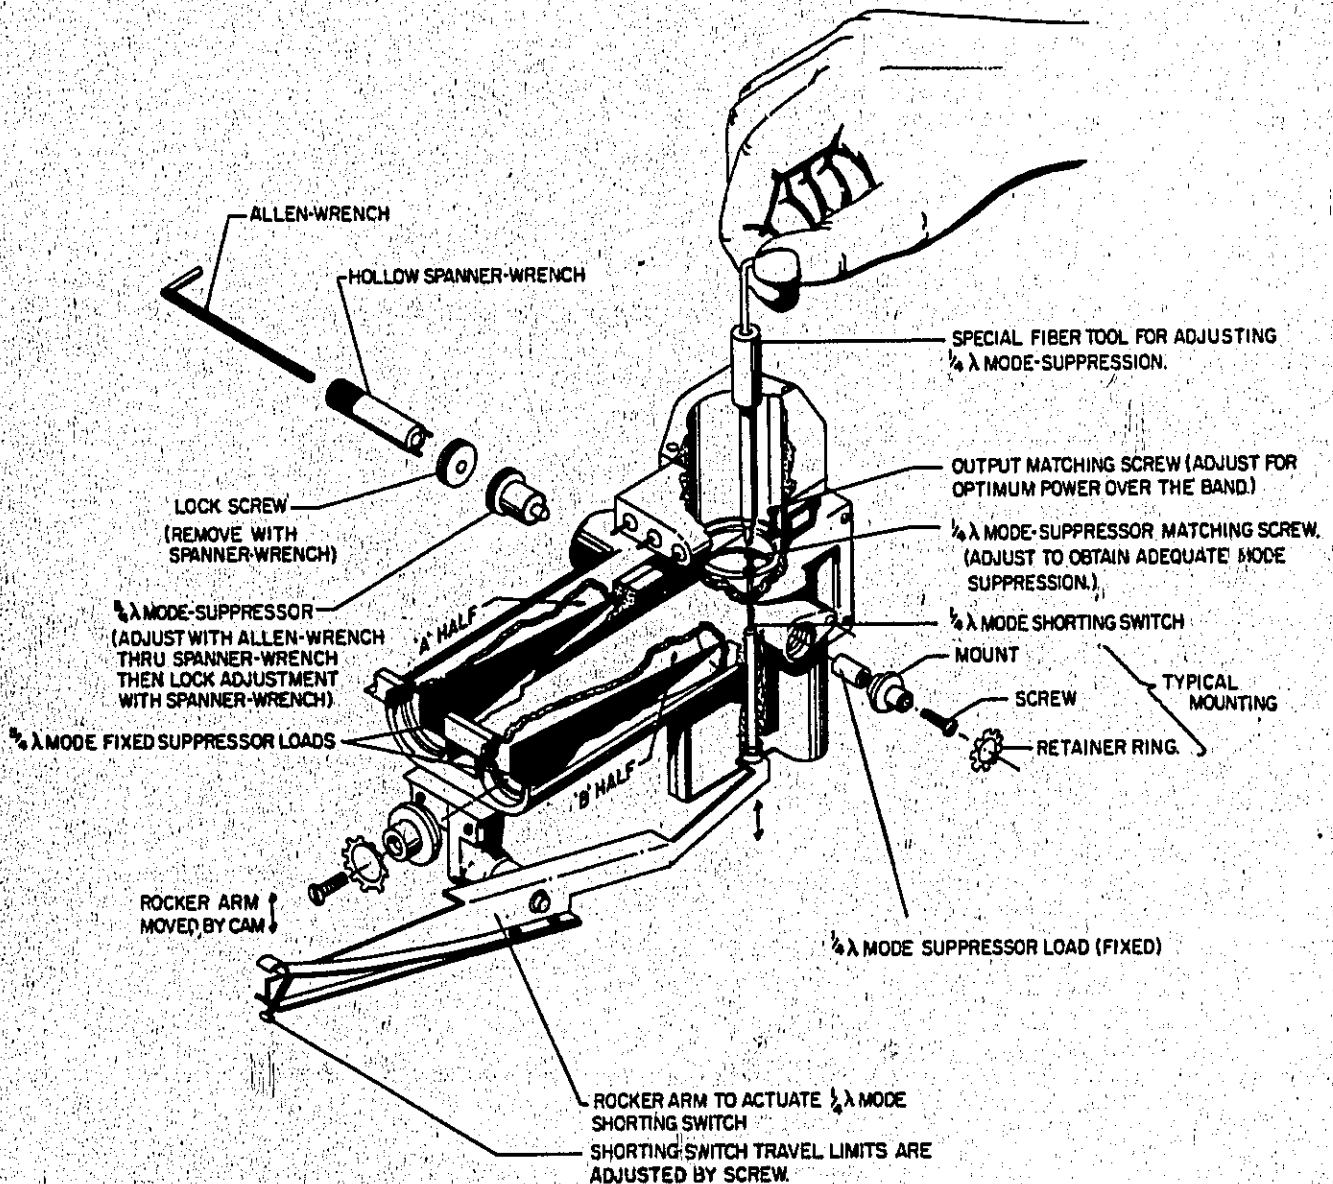

Figure 5-13. Adjustment of Mode Suppressors and Output Matching Screw
c. Adjust the  $1/4$  wave mode suppressor matching screw to eliminate interference. Use the special fiber tool supplied with the instrument and refer to Figure 5-13.
f. To suppress this mode, adjust the 5/4 wave mode suppressor shown in Figure 5-13. Another special tool is provided to assist you in this adjustment; it is the small hollow spanner wrench secured inside the chassis. After unthreading lock screw insert a No. 10 allen wrench through it to adjust suppressor. After achieving the desired suppression, lock suppressor in place.
**5-53. OUTPUT POWER RESPONSE ADJUSTMENT.** After satisfactory tracking has been obtained and undesired modes suppressed, the output matching screw must be adjusted as shown in Figure 5-13.